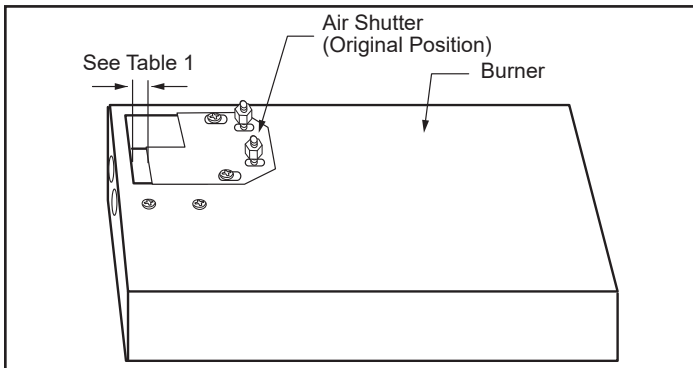

Figure 38 - Air shutter in original from-the-factory position.
**NOTE:** The air shutter may only be adjusted to a more open position. The factory setting is the minimum allowable air shutter opening. (Figures. 38 and 39)